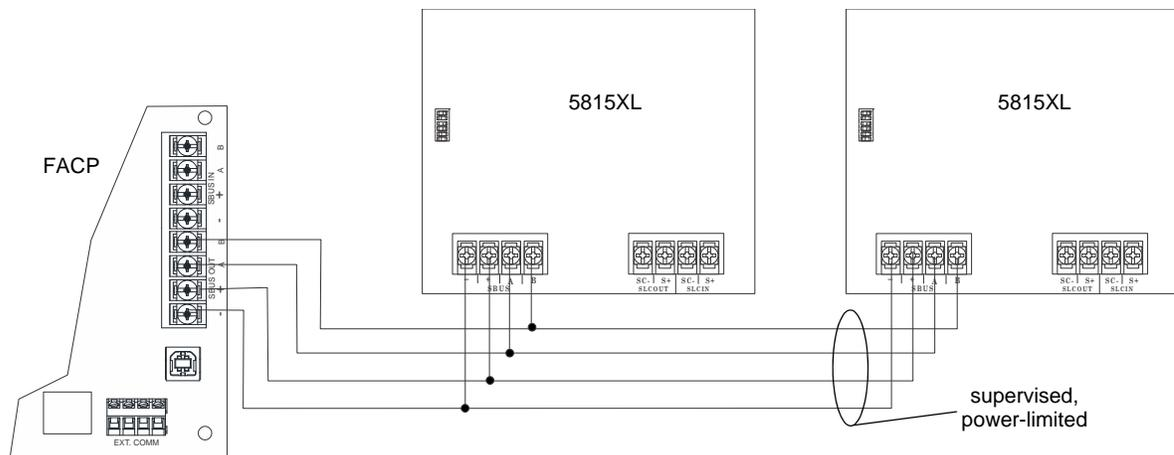

Figure 4.29 5815XL Connection to FACP
3. Connect the 5815XL to the control panel. (See Figure 4.29.)
Connect the 5815XL to the control panel as shown in Figure 4.29. After the 5815XL is connected to the panel, it must be added to the system. This programming steps are described in Section 8.2.2.